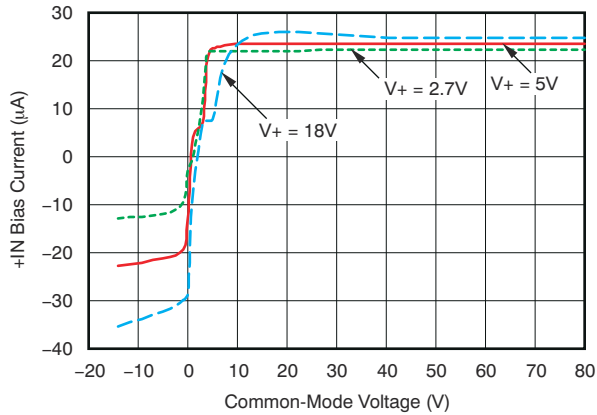

图 6-7. INA283-Q1 +IN BIAS Current vs Common-Mode Voltage
- (1) RTI = referred-to-input.
- (2) See typical characteristic graph 图 6-7.
- (3) The average of the voltage on pins REF1 and REF2 must be between V_{GND} and the lesser of $(V_{GND}+9\text{ V})$ and V_+ .